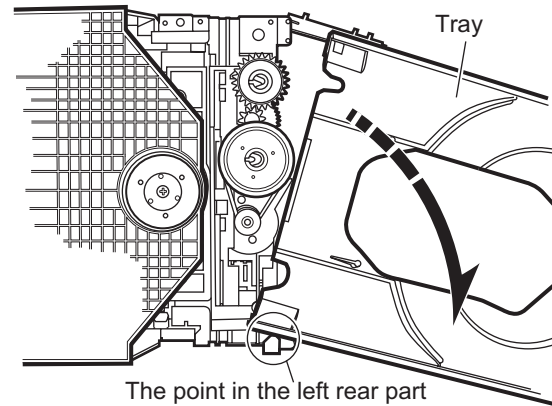
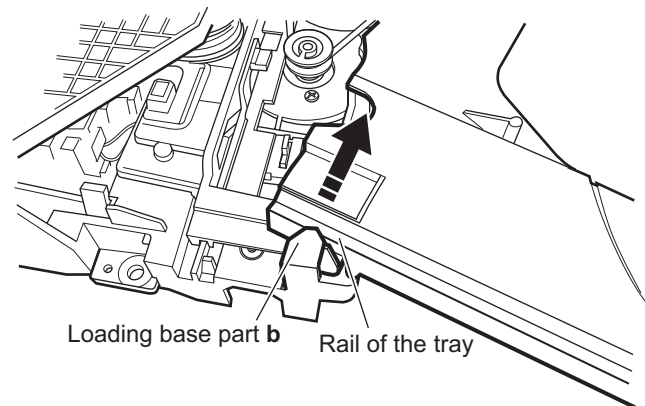

Fig.3
Fig.4
2.2.1 Removing the tray (See Figure 1, Figure 2, Figure 3, Figure 4, Figure 5, Figure 6)
- (4) Tilt the tray in a direction of the arrow around the point in the left rear part of the tray. (See Figure 3.)
- (5) The rail of the tray is removed from **b** of the loading base. Then, remove the tray upward. (See Figure 4.)